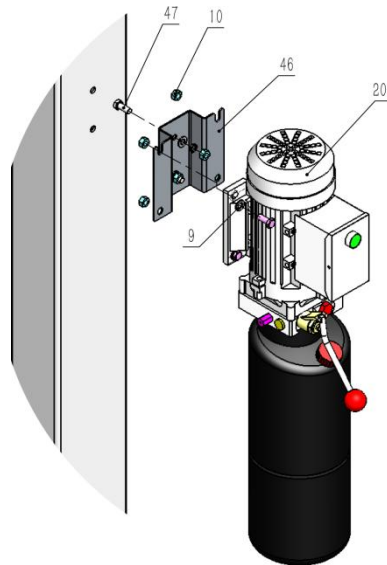

Fig.31
2. Install motor fixing bracket **(See Fig. 31)**